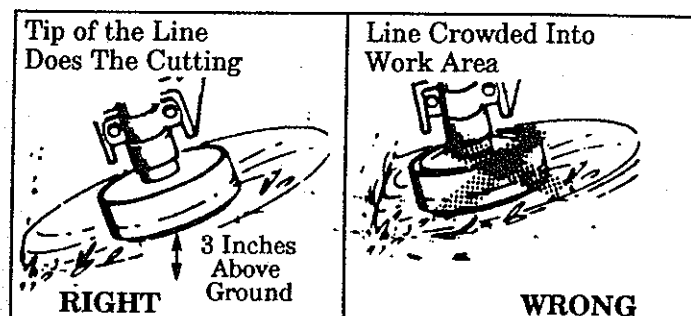

Figure 13
- The tip of the line does the cutting. You will achieve the best performance and minimum line wear by not crowding the line into the cutting area. The right and wrong way are shown in Figure 13.